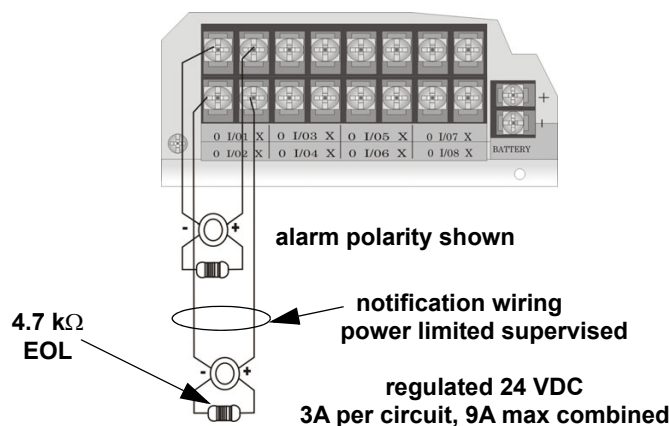

Figure 4.47 Class B Notification Appliance Circuit Wiring
1. Wire Class B Notification appliances as shown in Figure 4.47.